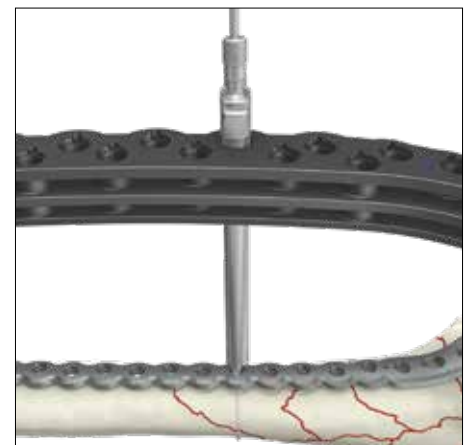

Fig. 20
The calibrated drill Ø2.5mm (ref 703586) is then used to drill the core hole for the Ø3.5mm cortical screw (fig. 20).